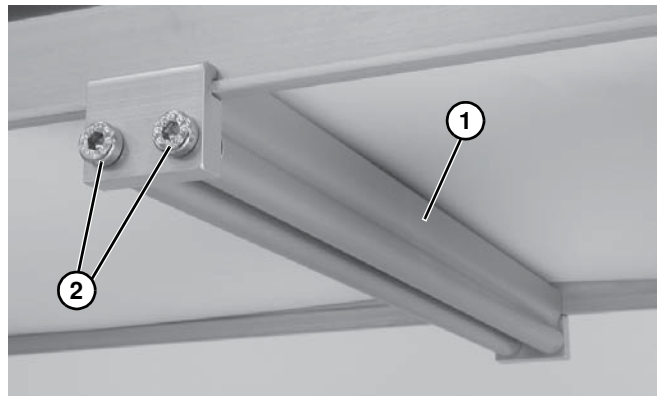

Figure 16
3. Install roller assembly as shown (**Figure 16, item 1**). Tighten screws (**Figure 16, item 2**) to 7 Nm.